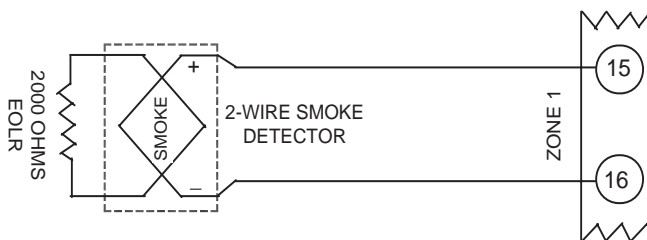

Figure 6-1: 2-Wire Smoke Detector Connected to Zone 1 [can also be connected to Zone 2, terminals 17(+) and 18(-)].
1. Connect 2-wire smoke detectors across zone 1 and/or zone 2 terminals (15 through 18) as shown in *Figure 6-1*. Observe proper polarity when connecting the detectors.